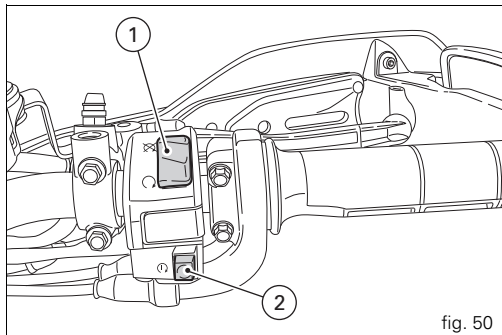

fig. 50
- 2) Check that the stop switch (1, fig. 50) is positioned to  (**RUN**), then press the starter button (2).